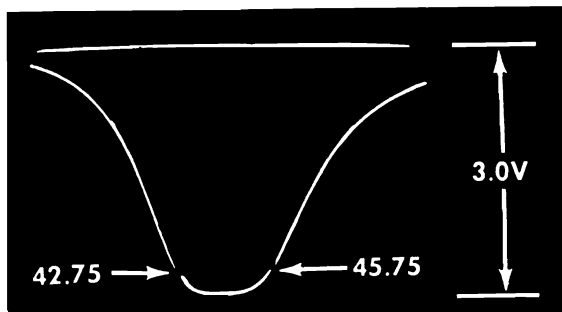

Fig. 10 4th IF Response
a response similar to Fig. 10. Do not exceed the 3 volt peak to peak detector output during any of the following adjustments.
4. Set the marker generator to 45.75 Mc and alternately adjust the top and bottom cores of the 4th IF for maximum gain and symmetry with the 45.75 Mc and the 42.75 Mc markers positioned as shown in Fig. 10. If the correct response cannot be obtained, check the cores to see that they are not butted but are entering their respective windings from the opposite ends of the coil.